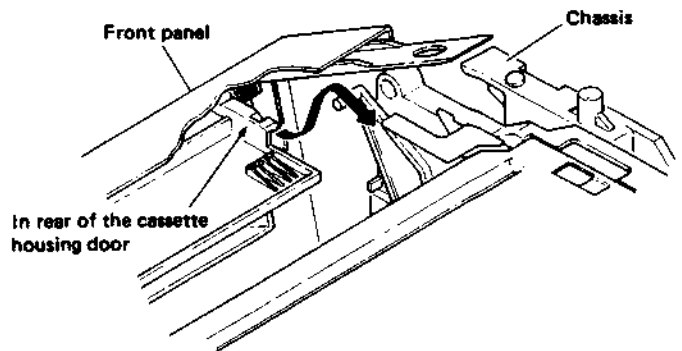

Fig. 1-1-9 Cassette housing door
4. Install the front panel as shown in Fig. 1-1-9 and re-engage the tabs. Supply power and use a spare cassette to check for normal loading and eject operations.